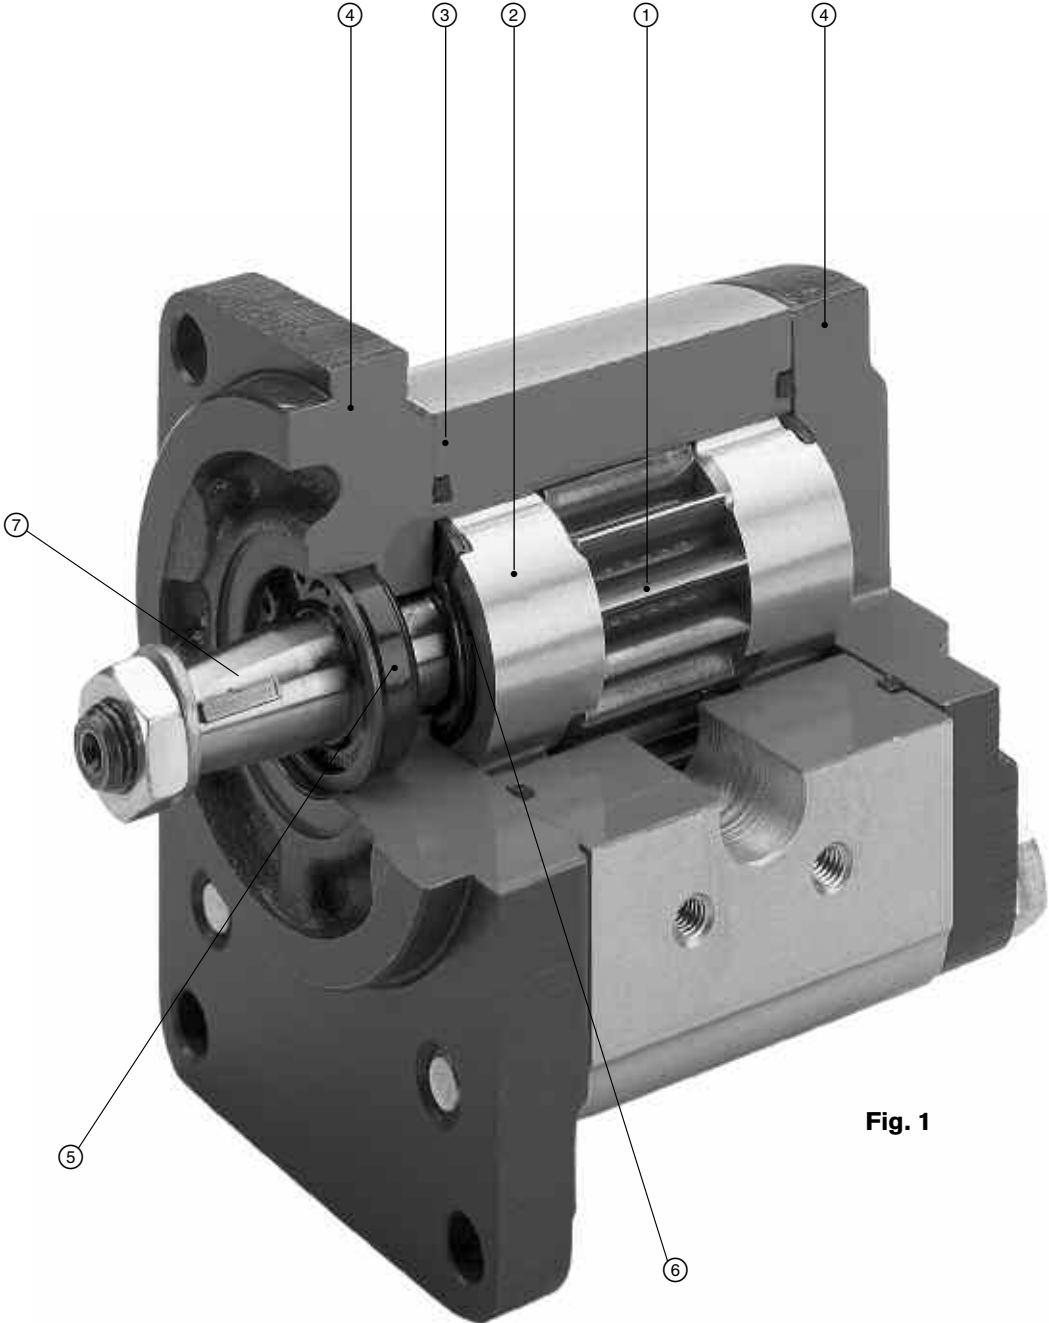

Fig. 1
Referencing Fig. 1, the motor essentially consists of a pair of gears ① supported in bearing blocks ②, and a housing ③ with front and rear covers ④. The output shaft ⑦ extends from the front cover where it is sealed by a shaft seal ⑤.